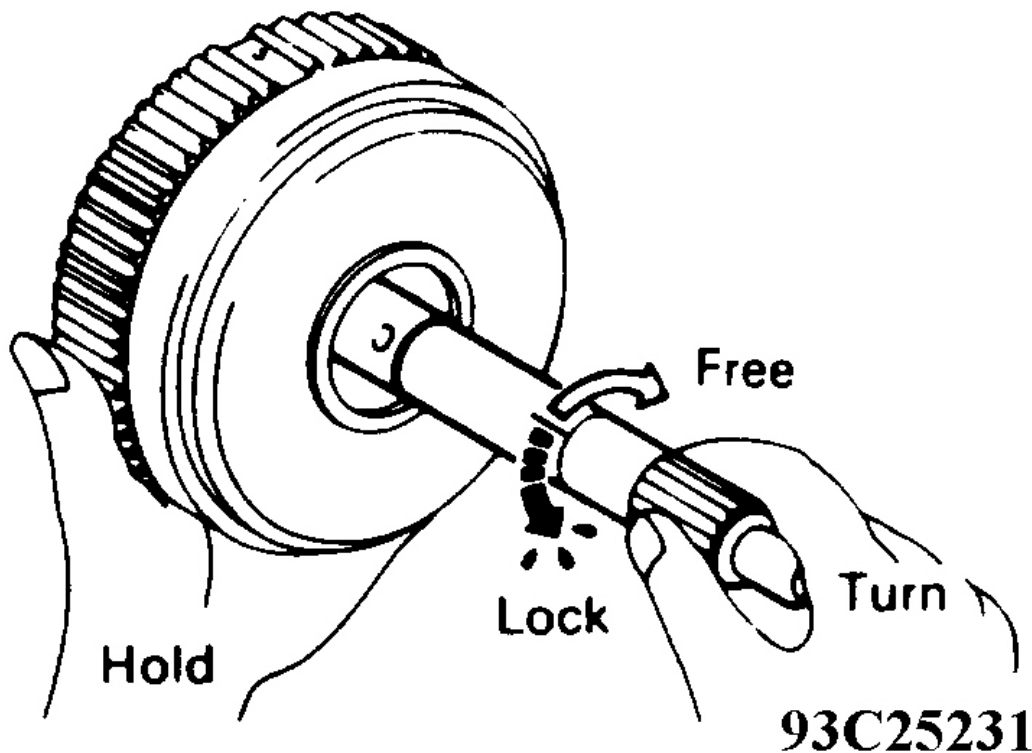

Fig. 18: Checking OD One-Way Clutch Operation
1. Hold the OD direct clutch drum and turn the input shaft. The input shaft should turn freely clockwise and lock when turned counterclockwise. See **Fig. 18**.